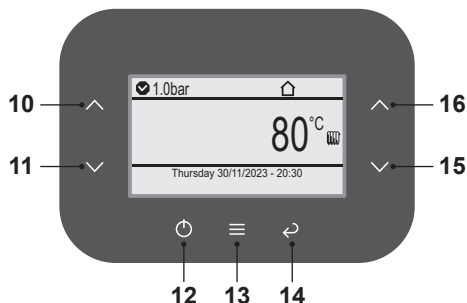
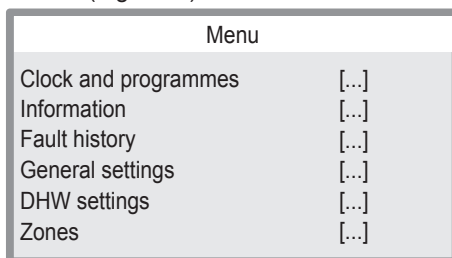
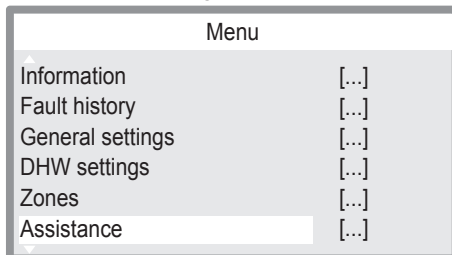

Fig. 10.1
Fig. 10.2
Fig. 10.3
- Press key 13 (Fig. 10.1) to go to the main menu (Fig. 10.2).
- Press key 10 or 11 (Fig. 10.1) to select the desired menu (Fig. 10.3).
- Press key 13 (Fig. 10.1) to access the selected menu (Fig. 10.4).
- Press key 10 or 11 (Fig. 10.1) to select the desired menu from those available (Fig. 10.5).
- Press key 13 (Fig. 10.1) again to highlight the value to be changed.
- Press key 13 (Fig. 10.1) to confirm the change or key 14 to exit without changing the value (return to previous level).